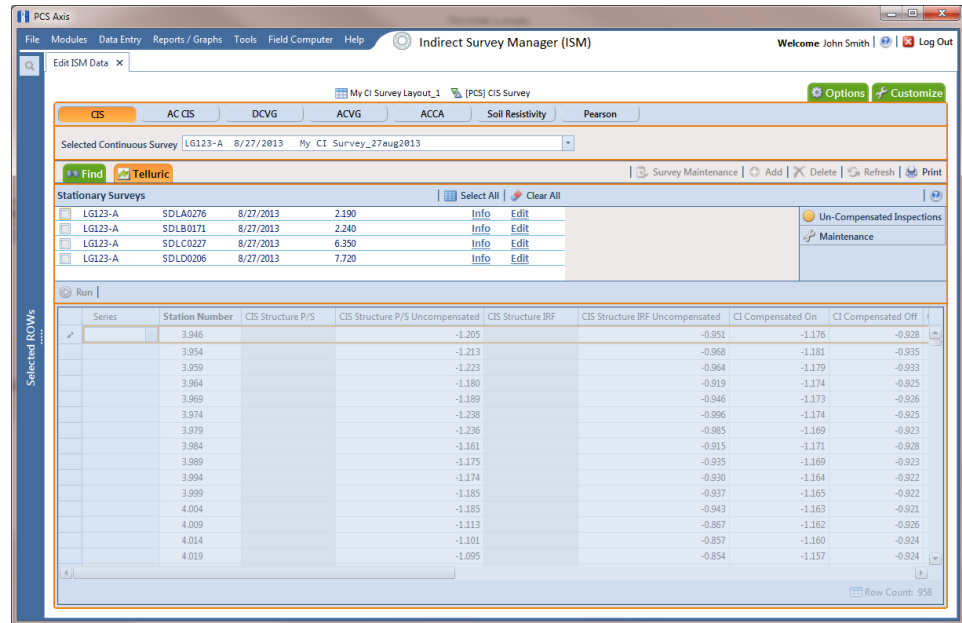

Figure 14-32. Telluric Workspace
- 4 Click the **Telluric** tab  to open the *Telluric* workspace (Figure 14-32, page 690).
A list of stationary data logger (SDL) survey files related to the selected pipeline segment and CI survey display in the *Stationary Surveys* group box of the *Telluric* workspace (Figure 14-32, page 690).